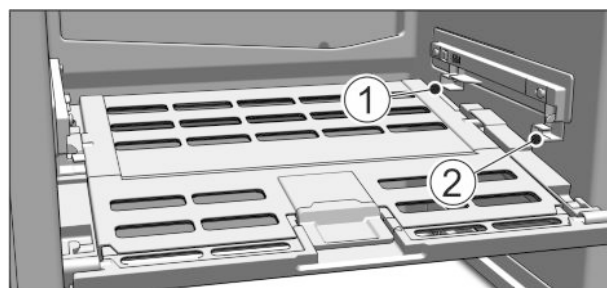

Fig. 15
► Inserting the Fruit & Vegetable-Safe cover: Insert the guide pieces into the rear retainer *Fig. 15 (1)* from below, then snap the plate into the retainer *Fig. 15 (2)* in the front.